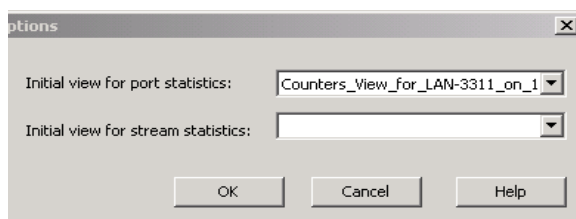

Figure 8-61. Options Window
- 6 Select **Tools/Options/Options**. The *Port Statistics* and *Stream Statistics* windows use either a predefined counter layout that you configured (“*Tour of the View Organizer*” on page 419) or one of the default layouts provided with SmartWindow. The *Options* pop-up window provides the ability to change the default views of the *Port Statistics* and *Stream Statistics* windows. (Refer to *Figure 8-61* for the display of a sample *Options* pop-up window.)